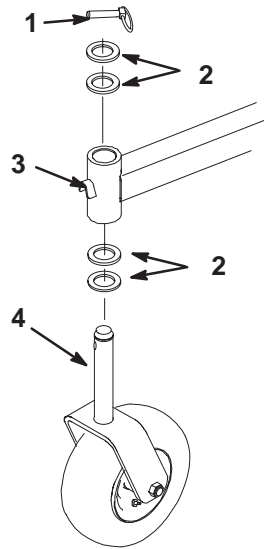

Figure 66
2. Remove the locking pin and spacer(s) from the top of the caster wheel fork (Fig. 66).
- Inspect the caster wheel fork for wear and replace if necessary (Fig. 66).
- Slide the caster wheel fork through the bushings in the mounting tube. Replace the spacers(s) onto the fork and secure with the retaining ring (Fig 66).